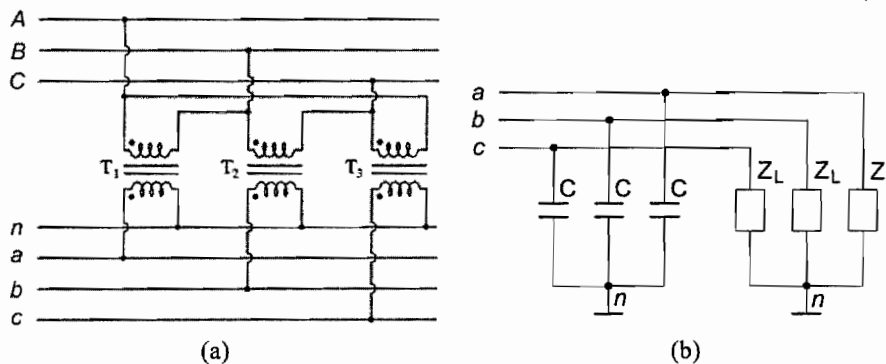

Fig.P1 (a) Three phase transformer connected in *Dyn11* vector group, and (b) three capacitors connected in star and parallel to the three phase load
A three phase 250 kVA 2400:415 V 50 Hz distribution transformer is constructed by connecting three single phase transformers in the *Dyn11* vector group as shown in Fig.P1(a) below. The per phase equivalent circuit parameters on the high voltage side are:
- If three identical capacitors are connected in star and then in parallel to the rated three phase load in (b), as shown in Fig.P1(b), to achieve **zero voltage regulation**, calculate the capacitance C per phase.